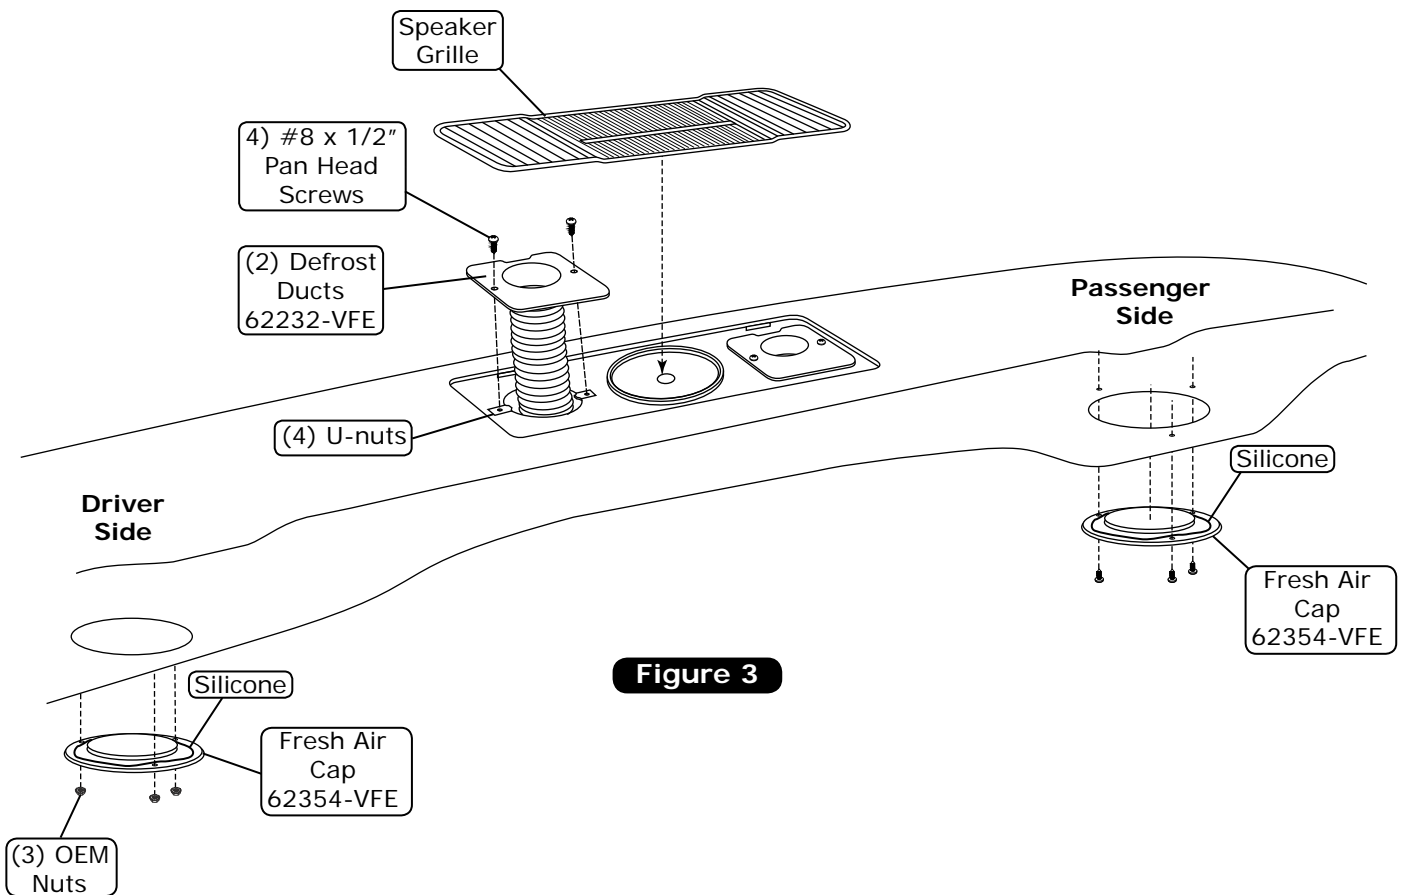

Figure 3
1. Install driver and passenger side defrost ducts using (4) U-nuts and (4) #8 x 1/2" pan head screws (See Figure 3, below). **NOTE: Before installing the driver side duct, attach approximately 24" of the 2" duct hose to the defrost duct. Feed the duct hose into the driver side opening on top of dash and finally attach the defrost duct.**
2. Reinstall speaker grille (See Figure 3, below).
1. Hold the fresh air cap under the dash and mark the (3) mounting holes as shown in Figure 3, above.
2. Drill (3) 1/8" mounting holes under the dash as shown in Figure 3, above.
3. Apply a 1/4" bead of silicone around the back side of the fresh air cap as shown in Figure 3, above.
4. Secure the fresh air cap to the fresh air hole using (3) #10 x 1/2" sheet metal screws as shown in Figure 3, above.
1. Apply a 1/4" bead of silicone around the back side of the fresh air cap as shown in Figure 3, above.
2. Install the fresh air cap using OEM nuts as shown in Figure 3, above.